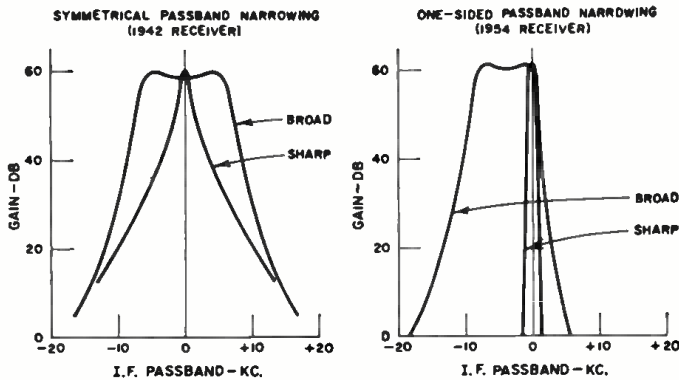

Fig. 7. Comparison between symmetrical and one-sided narrowing.
*Hallcrafters* introduced the "SX-88," which featured double conversion on all bands from 535 kc. to 33 mc. This receiver had two r.f. stages, tunable first oscillator, and selectable high i.f. channels of either 1.550 or 2.075 mc. The second conversion used crystal-controlled oscillators with a choice of either 1.500 or 2.125 mc. as beating signals. This permitted selection of either the upper or lower sideband output from the second mixer to be passed through a following 50-kc. i.f. strip. The 50-kc. i.f. featured eight tuned circuits in the three stages, with six-step variable selectivity without crystal filtering, the bandwidths ranging from 10 kc. to only 250 cycles on the "nose." An interesting aspect indicative of the selectable single-sideband approach was evident in the fact that bandwidth narrowing was not symmetrical. Instead, the carrier was located at one edge of the i.f. passband, with bandpass narrowing from one side as selectivity increased. See Fig. 7.